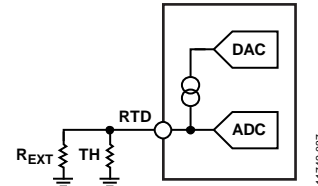

Figure 37. Temperature Measurement Using Thermistor
By connecting an external resistor ( $R_{EXT}$ ) in parallel with the NTC thermistor (TH), a constant current can be used to achieve linearization (see Figure 37).